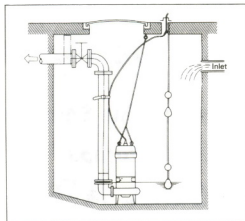

Fig. 1
- If there is a flow of liquid inside the tank, support the piping where appropriate. (See Fig. 1)